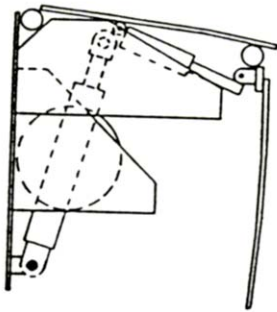
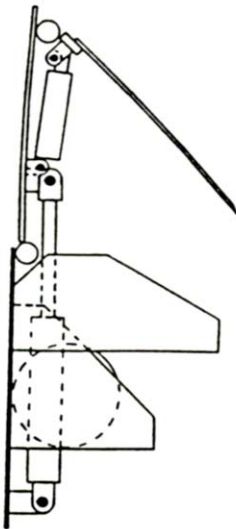

Figure 1
Figure 2
3. Always remove any end load while leveler is in stored position. (Figure 1).
6. After truck departs, leveler will automatically return to stored position (Figure 1).
7. To remove leveler from truck before departure, operate leveler "RAISE" (A) button until lip clears truck bed, folds up and returns, (Figure 2) then release button. Leveler will then return to stored position (Figure 1).